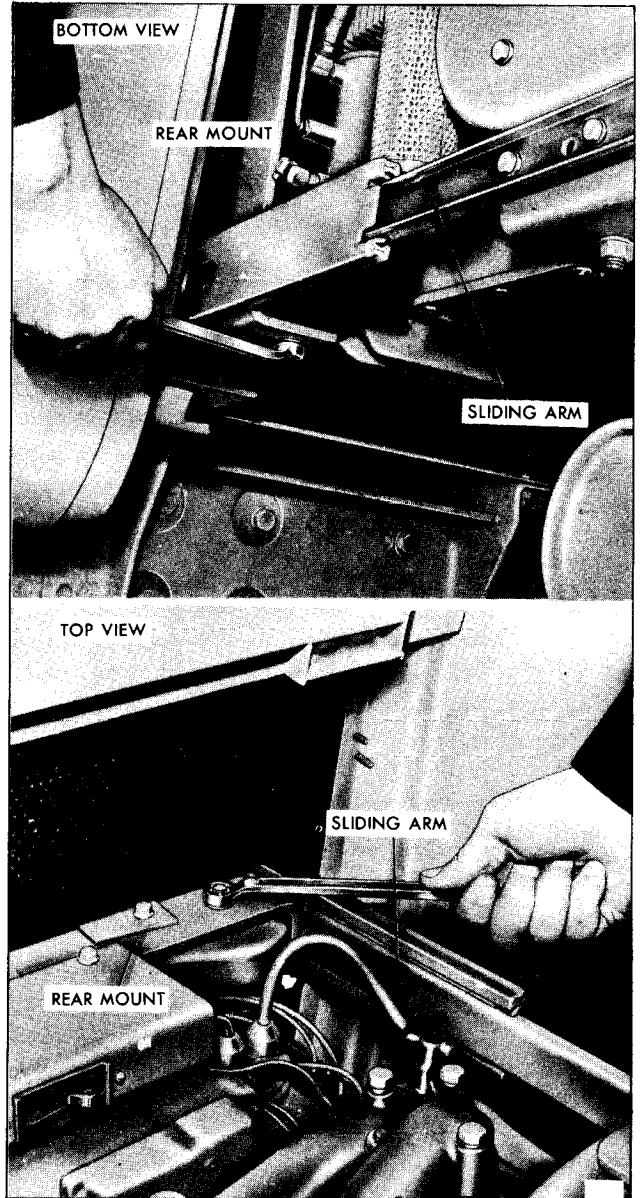

Figure 2—Disconnecting Rear Mounts
7. Remove mounting fasteners from rear mount (figure 2).
5. Install rear mounting fasteners as shown in Figure 2.